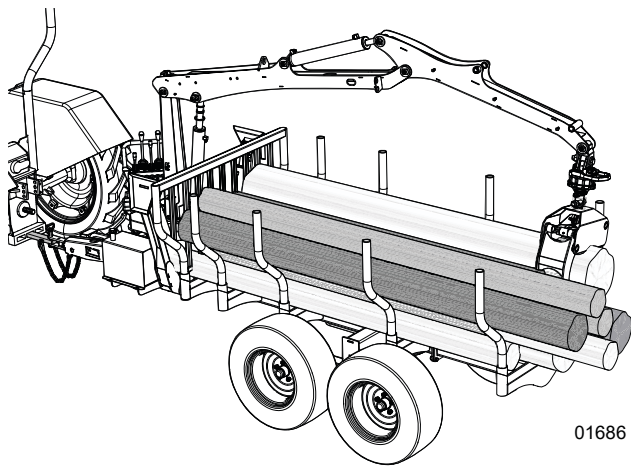
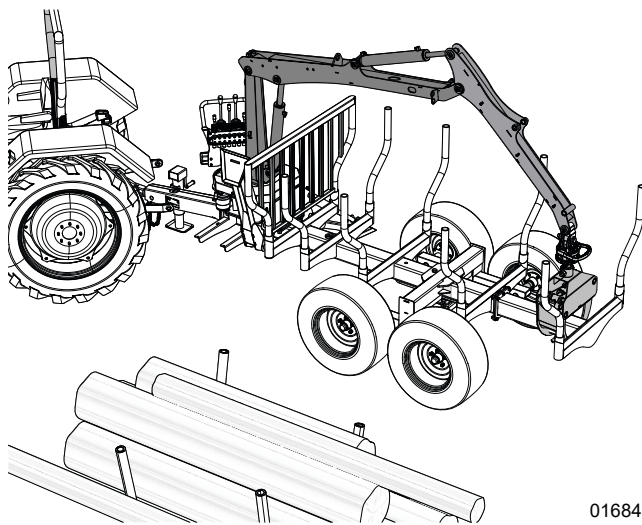

Figure 43—Log grapple position with a load
Figure 44—Log grapple position when the machine is empty
For more information, see *Figure 43 on page 51* and *Figure 44 on page 51*.
- If there are logs in the machine, grip the end of a log at the rear of the machine. For more information, see *Figure 43*.
- If the machine is empty, grip the main frame at the rear of the machine. For more information, see *Figure 44 on page 51*.